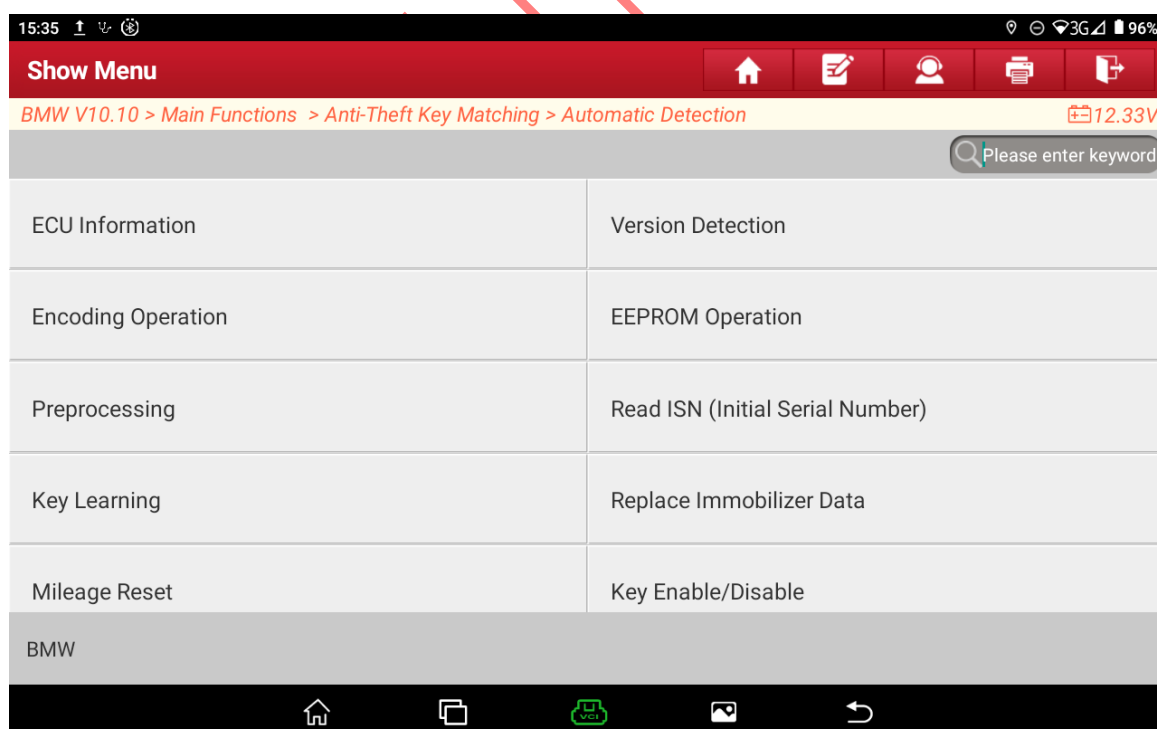

Figure 34
34. Select 【Key Learning】, as shown in Figure 34.